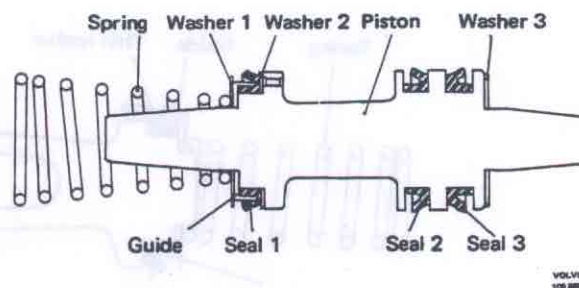

Fig. 52-17. Secondary piston
1. Fit the thin washers 2, Fig. 52-17 and the seals on the secondary piston and make sure that the seals are turned correctly according to the Figure.